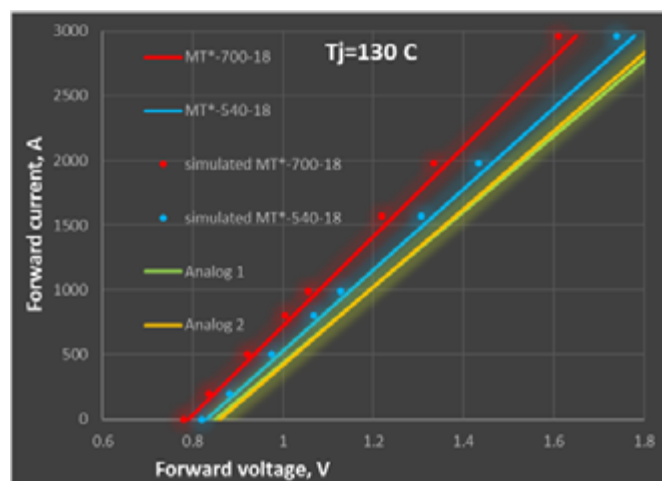

Figure 6: Surge current for a standard MT*-540-18-A2 and optimized MT*-700-18-A2
3. The surge current in the open state – increased by 20% at the maximum temperature of the pn junction $T_{jmax} = 130^\circ\text{C}$. Figure 6 shows the experimental values of the surge current in the open state for the standard MT*-540-18-A2 and the optimized MT*-700-18-A2 thyristor module in comparison with the measured values for alternatives from other manufacturers.